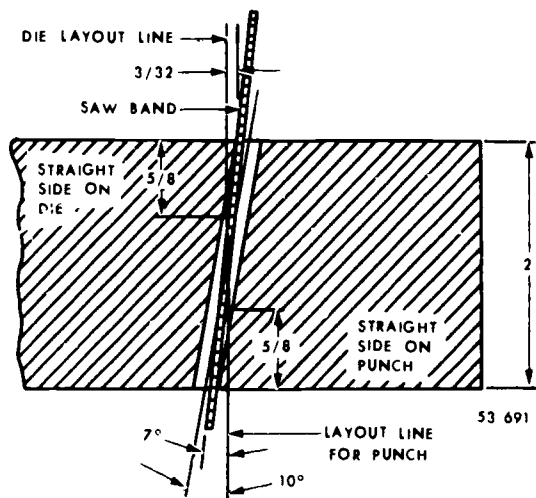

Figure 1-37 Contour sawing of dies
**Contour Sawing of Dies.** Internal contour sawing is well-suited to producing blanking dies and other straight-through die openings. It is the only process that permits both the die and punch to be machined from the same piece of steel. This procedure, shown in figure 1-37, is not complicated, because every work step and related dimension is based on the thickness of the die block, as indicated in figure 1-38. Three operations are involved: